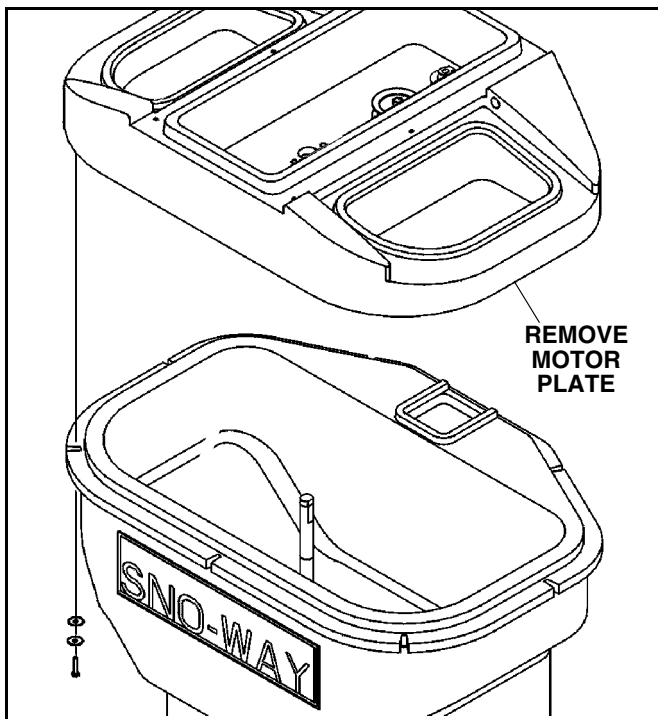

Figure 5
5. Remove the rim bolts and flat washers, and lift complete motor plate from hopper (See Figure 5).